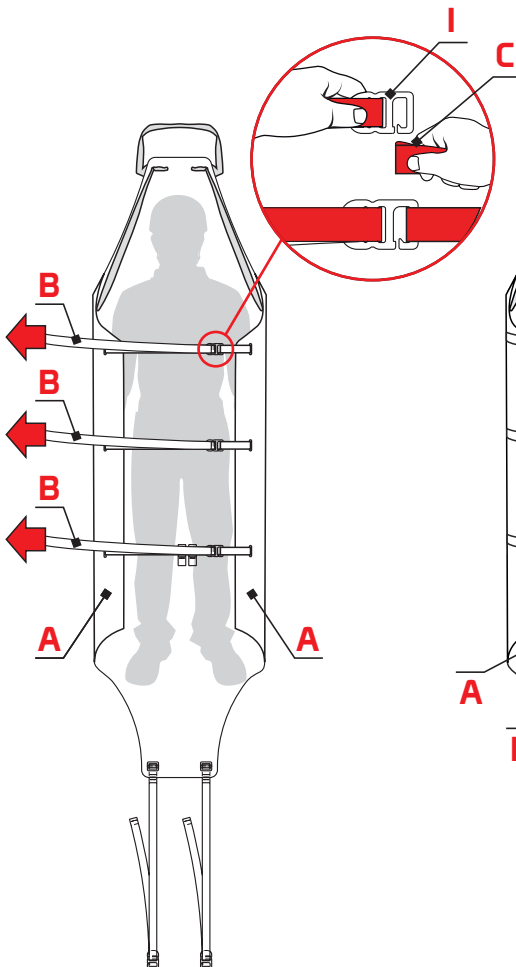

Fig.17
- Insert the buckles with hook (I) in the corresponding slings with eyelet (C) and tension the slings (B) to lift the side parts of the support surface (A) enough to contain the patient (fig. 17).